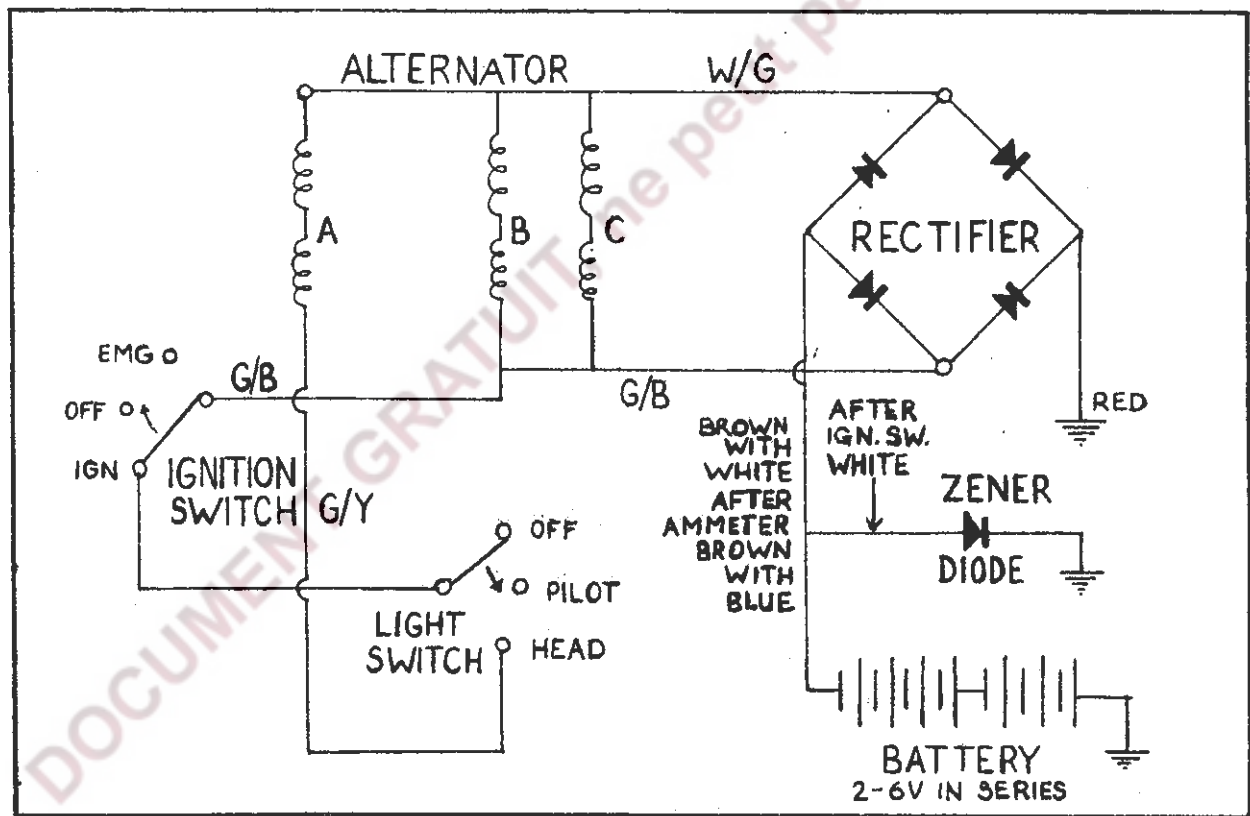

FIG. G.7. Schematic illustration of 12-volt charging circuit.
On models with a 12-volt electrical system and Zener Diode charge control, the alternator leads are connected differently in the low output connection (i.e. lighting switch in OFF position). The alternator gives "medium" output for the lighting switch in both the OFF and PILOT positions, the four coils (B) and (C) being permanently connected across the rectifier. Switching to HEAD position connects the two remaining coils (A). (See Fig. G.7.) Excessive charge is absorbed by the Zener Diode which is connected across the battery. To ensure that back-leakage does not occur, the Zener Diode is connected to the battery, through the ignition switch so that there
The Zener Diode is however unable to absorb the full output of the alternator. It is therefore necessary to retain some form of charge control through the lighting switch. This is achieved by permanently connecting four charging coils across the rectifier (white/green — green/yellow) and bringing in the other two coils (green/black) in the lighting switch headlamp position (Fig. G.7).